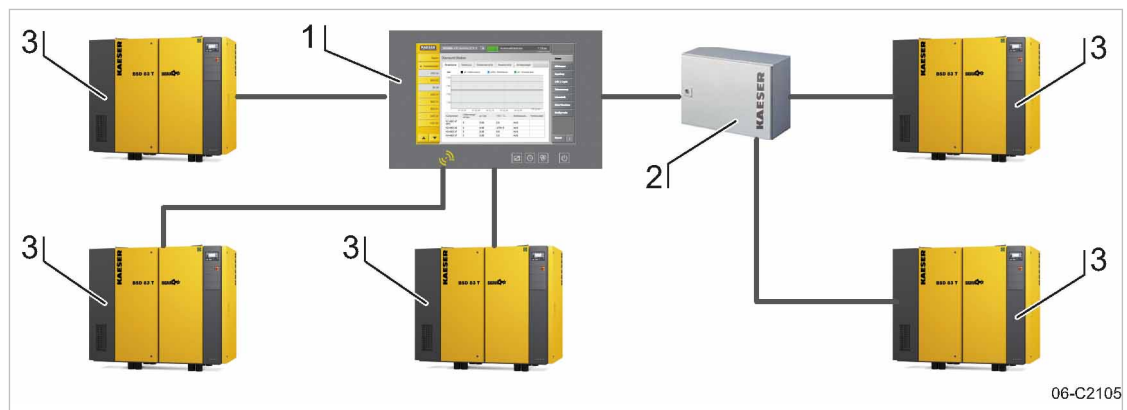

Fig. 10 SIGMA NETWORK design
- For details to create SIGMA NETWORK, see Fig. 10.